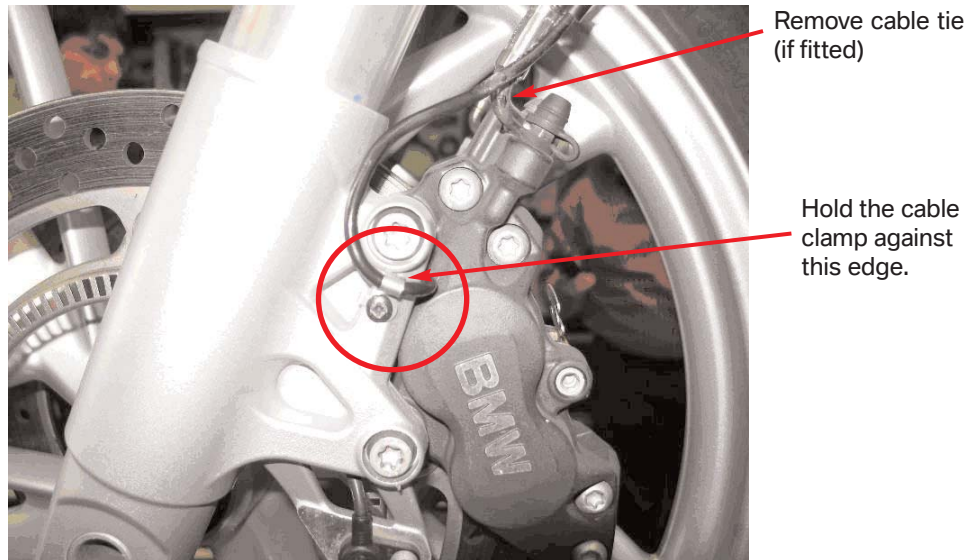

Fig. 4: location of the new sensor cable routing of the R 1200 GS.
2. Hold the cable clamp as shown in Fig. 4 at the bottom edge for the mount of the brake-caliper screw and use a centre-punch to mark the position for drilling the hole in the middle of the dome.
5. Use the new cable clamp to secure the sensor cable as shown in Fig. 4.